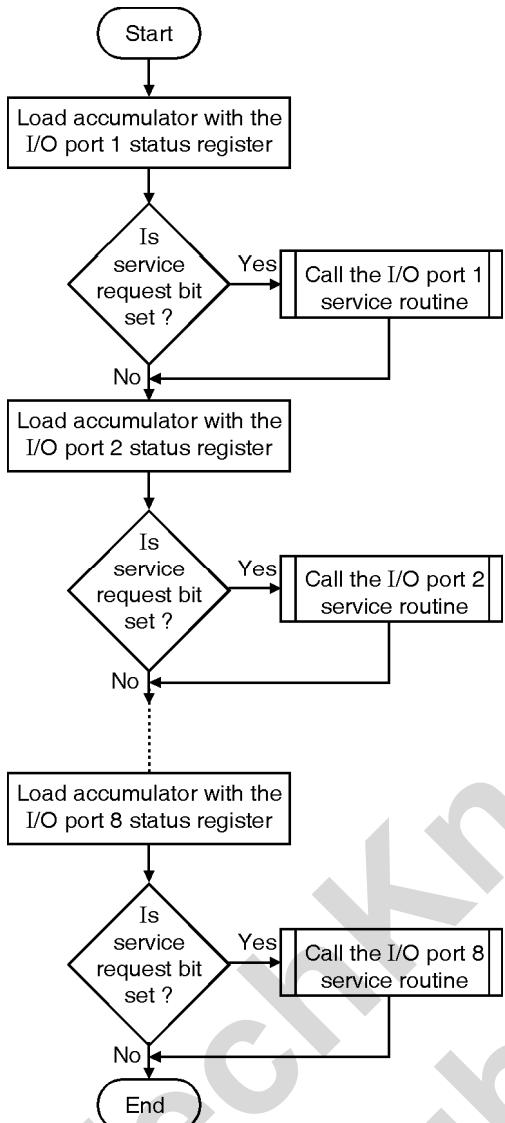

Fig. 10.6.1 : Polling sequence
- On completion of the polling routine, the microprocessor will resume with the execution of the program. Fig. 10.6.1 shows the sequence for polling routine.